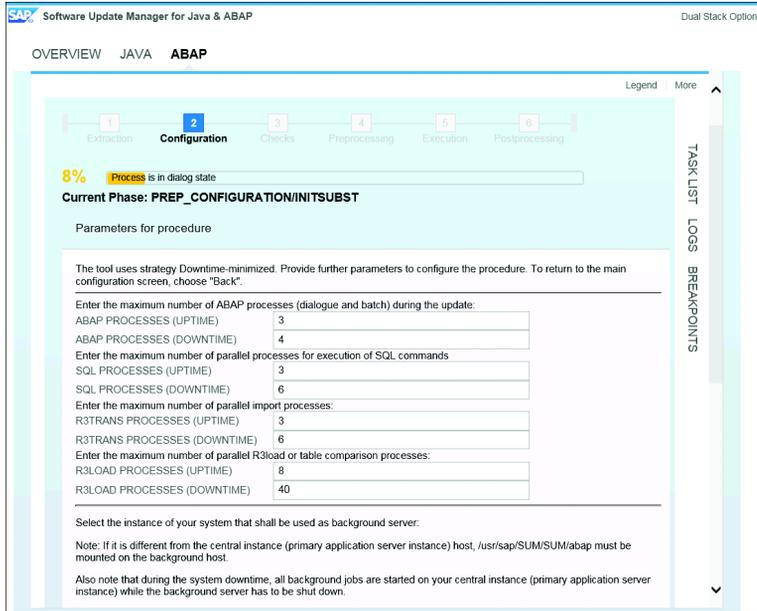
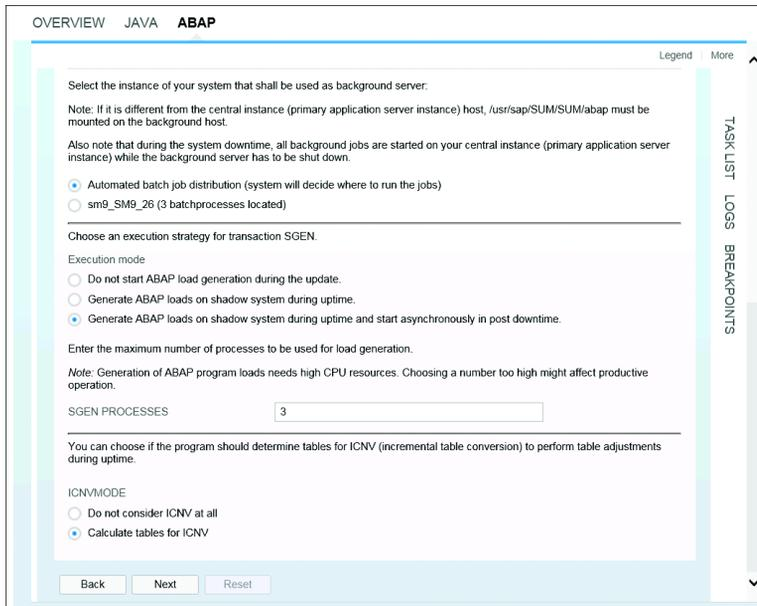

Figure 46 Configurable Upgrade Options
Figure 47 Additional Configuration Options
2. You can make detailed changes to a number of configuration options. Increase the number of processes to meet the available number of processes on your specific system. Make your selections carefully with thought and foresight. When ready, select NEXT (see Figure 46 and Figure 47).